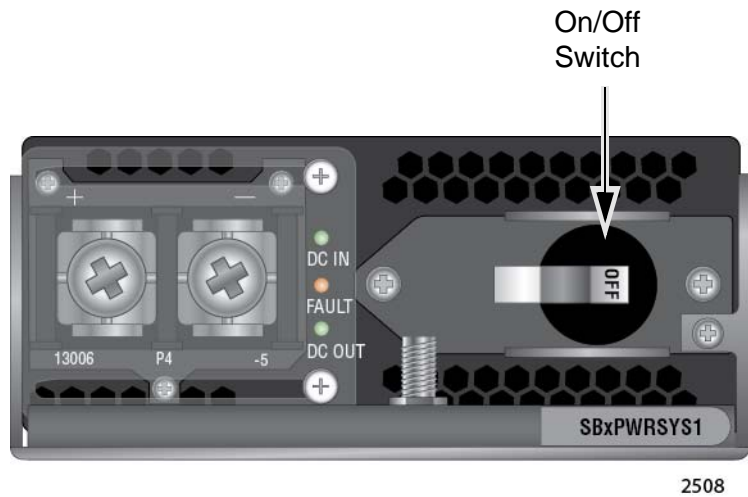

Figure 62. On/Off Switch on the AT-SBxPWRSYS1 DC Power Supply
4. Verify that the On/Off switch on the power supply is in the Off position. Refer to Figure 62 on page 127.